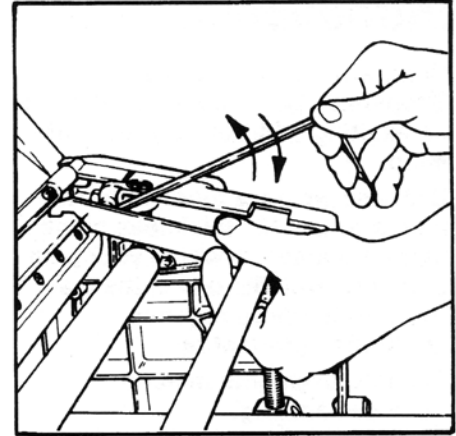

Figure 3. Initially, adjust the knife height so that the cutting edge almost touches the zero line of the knife setting gauge, as shown.
10. Adjust the height of the knife to within $1/32$ " of its correct position. Place the knife setting gauge over the right end of the outfeed tie bar as described in "Checking Knife Positions" in this section. Insert the $5/32$ " Allen wrench in the right knife leveling screw. Slowly rock the cutterhead back and forth so that the knife passes under the gauge. At the same time, turn the leveling screw counterclockwise until the edge of the knife comes within $1/32$ " of the zero line you scribed on the ramp of the gauge. (See Figure 3.)